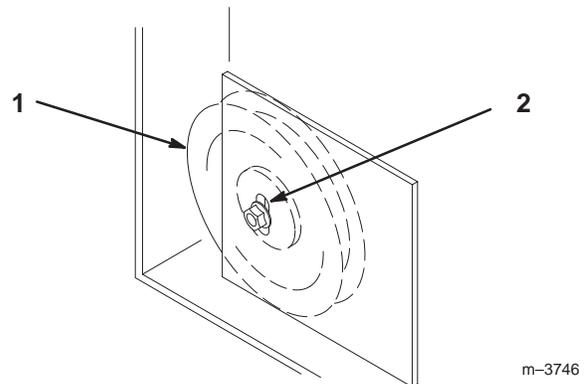

Figure 52
9. If adjustment is required, loosen the fixed idler on right support plate and move up or down in adjustment slot (Fig. 52). To relieve belt tension lift up on spring loaded idler.